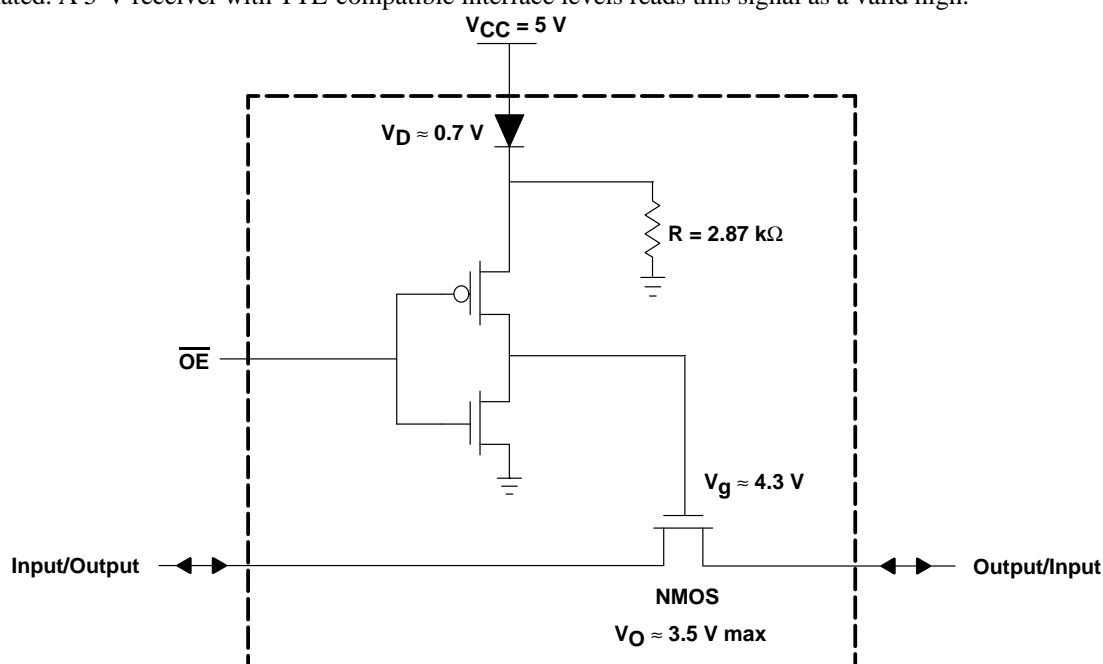

Figure 3. NMOS Switch of SN74CBTD3384 With Maximum V_O of 3.5 V
Voltage reduction using the SN74CBTD3384 bus switch starts with the physical operation of the switch. CBT bus switches consist of an N-channel MOSFET with its drain driven by the input and the output connected to the source. The switch is disabled when the gate is a logic low. It is enabled when the gate is a logic high, thus providing enough voltage to surpass the 1-V threshold from gate to source. Taking into account a V_{CC} of 5 V connected to the gate and a gate-to-source voltage drop of 1 V, the maximum to which the source voltage can rise is about 4 V. This source voltage limitation, coupled with the transistor's typical on-state resistance of $5\ \Omega$ gives the switch both 5-V to 4-V translation and low propagation delay. This physical realization is a major factor in the voltage translation to 3.3 V. If the enabled gate voltage can be reduced to a level lower than V_{CC} , this would limit the source to a voltage even lower than 4 V. As shown in Figure 3, the SN74CBTD3384 has a diode between V_{CC} and the rest of the circuit. This diode induces a 0.7-V voltage drop from V_{CC} , leaving only 4.3 V at the gate. With the additional 1-V drop from gate to source, the typical output of the SN74CBTD3384 is 3.3 V. Additional diodes can be added to limit the output to even lower levels. It is important to note that in some cases, the current (I_{CC}) flowing through the diode may not be enough of a bias current to turn the diode on. A resistor (R) is connected from the cathode of the diode to ground to ensure enough bias current through the diode. The bidirectional nature of the switch is not sacrificed in this translation. A logic high from a 3.3-V device is relayed to the output untranslated. A 5-V receiver with TTL-compatible interface levels reads this signal as a valid high.